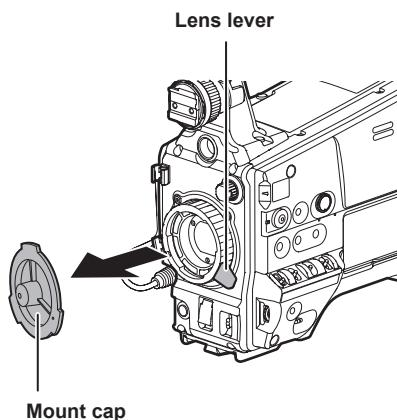

Fig. 1
**1** Raise the lens lever and remove the mount cap. (Fig. 1)